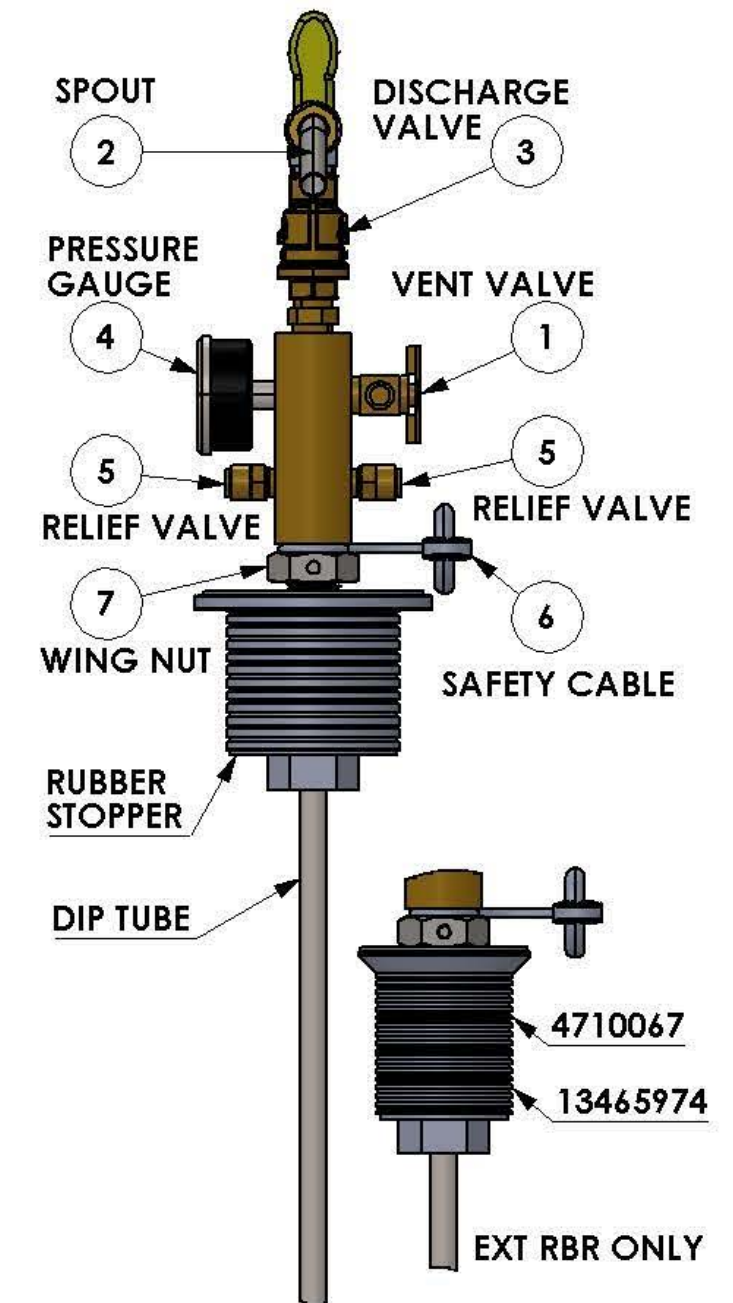

FIGURE 1: DISCHARGE DEVICE DIAGRAM
The MVE liquid discharge device provides liquid nitrogen for filling cold traps and smaller dewars without having to scoop out or pour liquid nitrogen from the vessel. The liquid discharge device utilizes the normal evaporation of the cryogenic liquid to slightly pressurize a dewar by plugging the neck of the dewar and forming a hermetic seal. The pressurized vessel can then decant liquid nitrogen through the liquid discharge device. Figure 1 shows a drawing of the liquid discharge device. The primary components of the liquid discharge device are listed below:
1. Attach the discharge device spout to the liquid discharge device (refer to Figure 1 for location). A transfer line can be used in place of the discharge device spout. The transfer line can be ordered from MVE (P/N 9713159) along with the required adapter fitting (P/N 1110052).